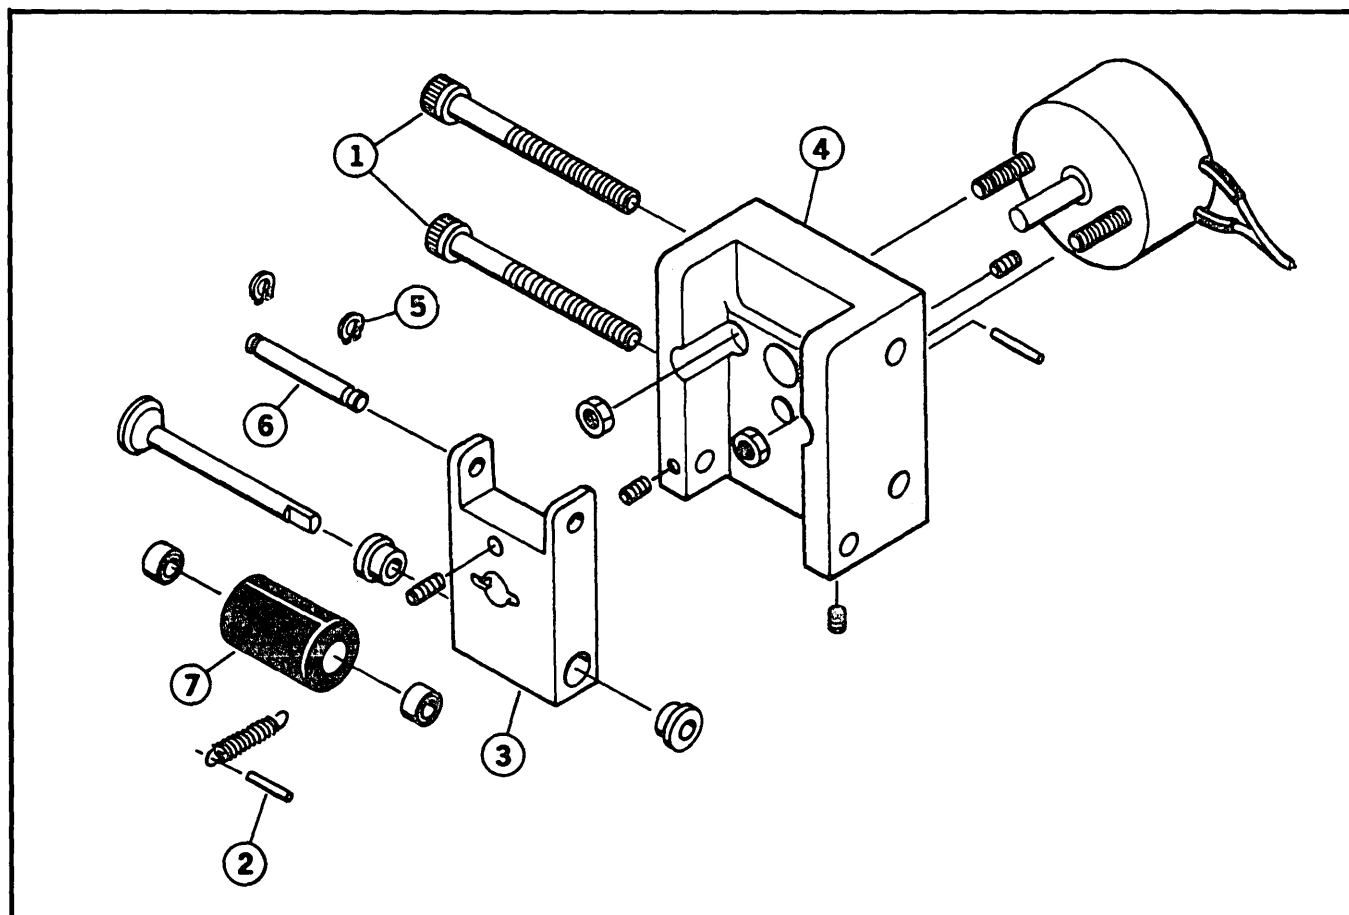

Figure 5-3. Pinch Roller Replacement
- a. Remove assembly from mounting surface by removing screws (item 1, Figure 5-3).
- b. Remove pin (item 2) by means of a small hook formed from stiff wire.
- c. Lift pinch roller yoke (item 3) clear of housing (item 4).
- d. Remove retaining ring (item 5) from front of shaft.
- e. Remove shaft (item 6) from rear of assembly, freeing pinch roller (item 7).